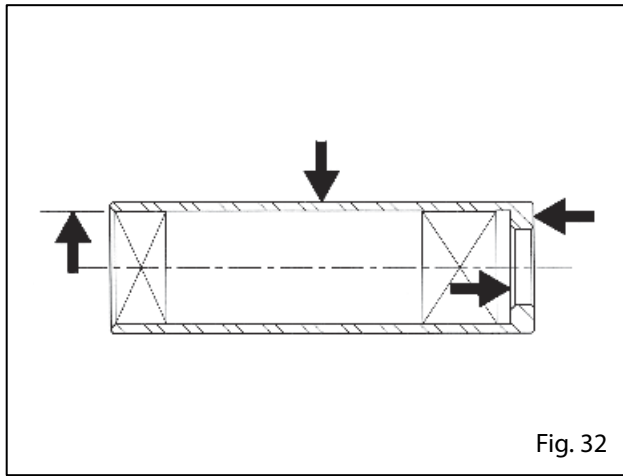

Fig. 32
- When inspecting the sleeve, review the outer and inner tracks, replace if you have grooves or pits (see Figure 32).